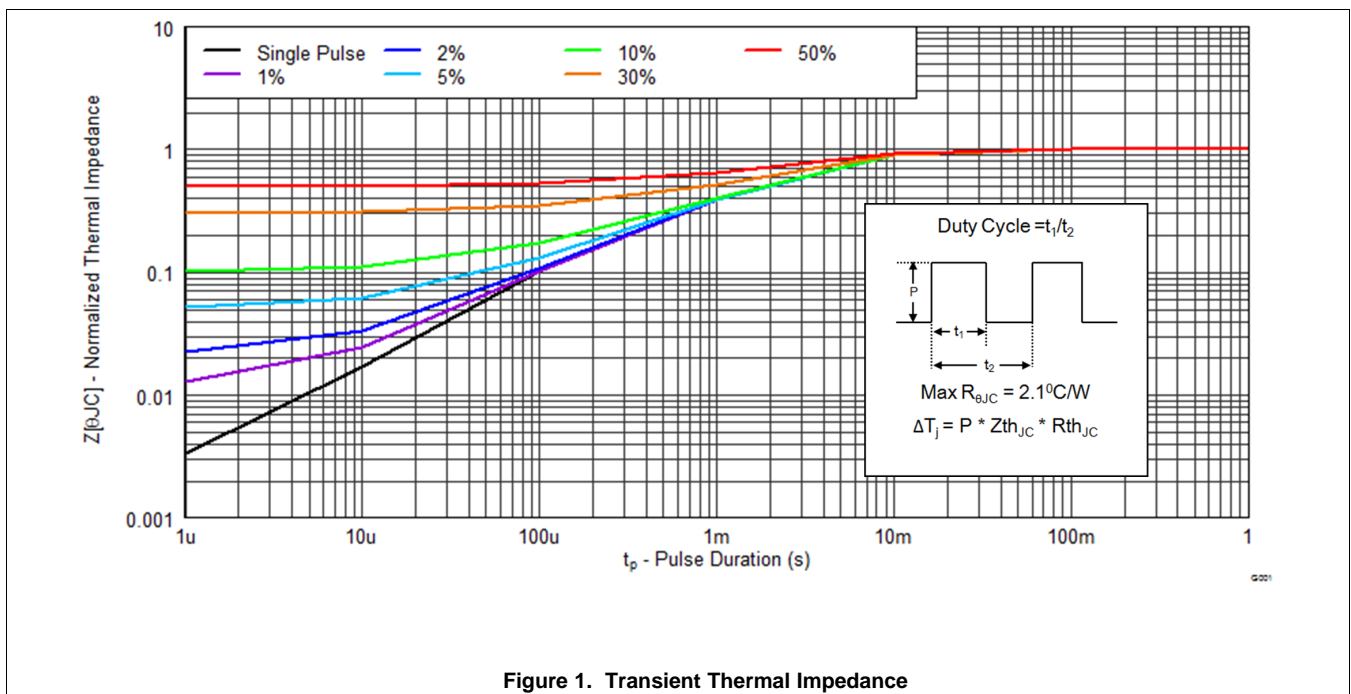

Figure 1. Transient Thermal Impedance
• Updated <a href="#">Figure 1</a> from a normalized $R_{\theta JA}$ curve to an $R_{\theta JC}$ curve .....	4